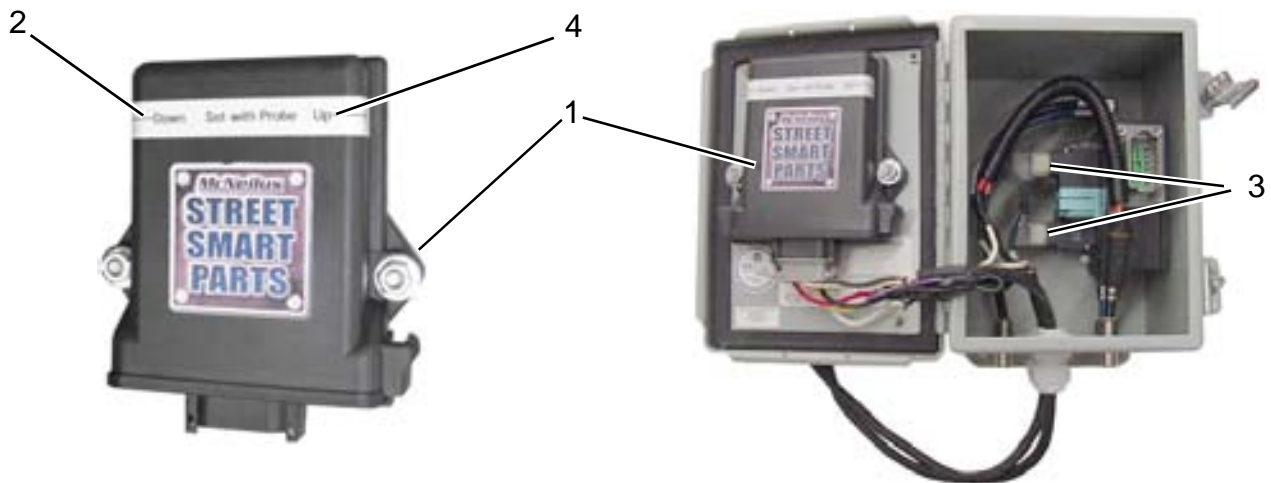

Figure 24
- Identify the controller (**Figure 24, 1**) located in the Soft-Stop control box. The controller has a label indicating the "DOWN" and "UP" positions on the controller of the Soft-Stop control box.
- Touch the magnet probe to the "DOWN" (**Figure 24, 2**) side of the controller to set the down end limit.
- When the magnet probe touches the controller, the DIN connectors (**Figure 24, 3**) on the air valves should flash two (2) times.
- Touch the magnet probe to the "UP" (**Figure 24, 4**) side of the controller to set the up end limit.
- When the magnet probe touches the controller, the DIN connectors on the air valves should flash two (2) times.